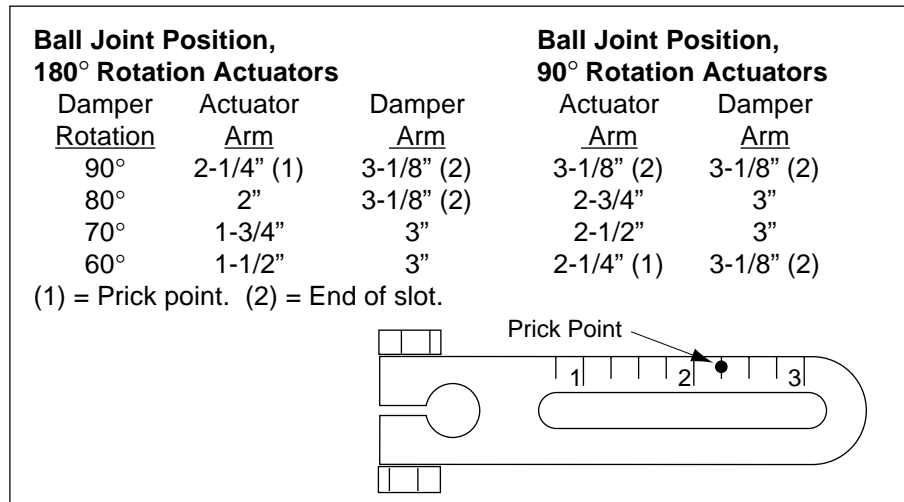

Figure 1. Slot provides adjustment from 7/8" to 3-1/8".
3. Attach a ball joint (linkage connector) to the actuator and damper crank arms at the correct position in the crank arm slot depending on the application. See Figure 1. A 180° rotation damper actuator provides the best close-off at the end of stroke and the best controllability (turn down ratio).